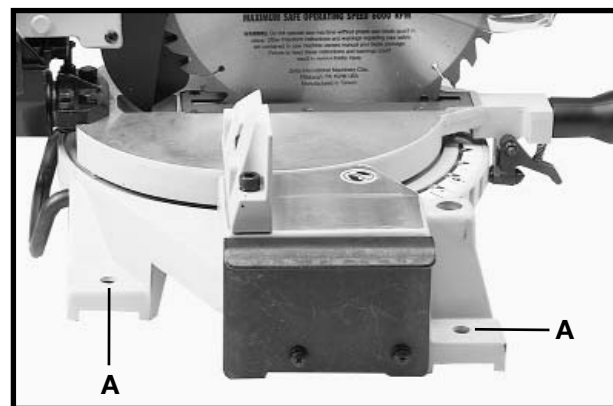

Fig. 7
Before operating your compound miter saw, make sure it is firmly mounted to a sturdy workbench or other supporting surface. Four holes are provided, two of which are shown at (A) Fig. 7.